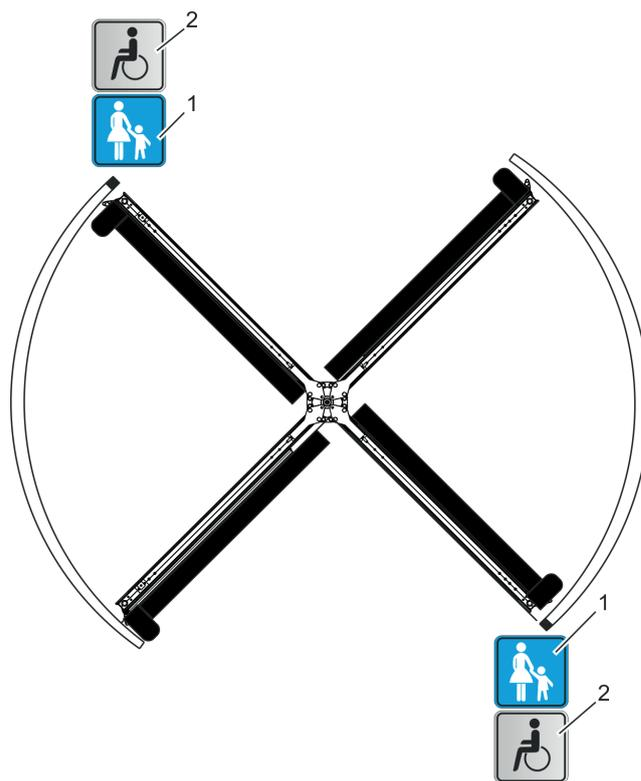

Fig. 26 Overview of labels/instruction plates
- Hold children by the hand (Fig. 26/1)
- Disabled access pushbutton* (Fig. 26/2)